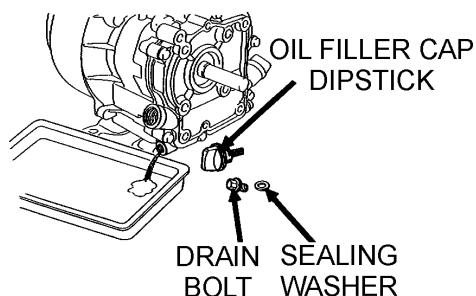

Figure 47. Draining Engine Oil
1. Drain the engine oil when the oil is warm as shown in Figure 47.